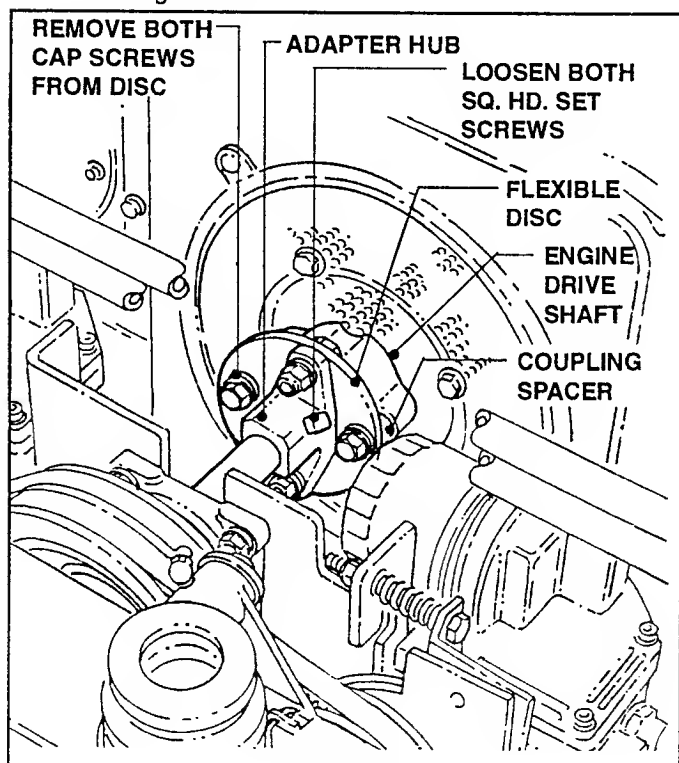

FIGURE 4.7
1. Loosen the two (2) Sq. Hd. Set Screws. See Figure 4.7.
2. Remove the two (2) Hex Hd. Cap Screws, Lock Washers and Flat Washers which secure the Flexible Disc to the engine driveshaft.
3. Slide Adapter Hub/Flexible Disc Assembly away from engine. Place Coupling Spacers and Washers aside for reassembly. Refer to Figure 4.7.